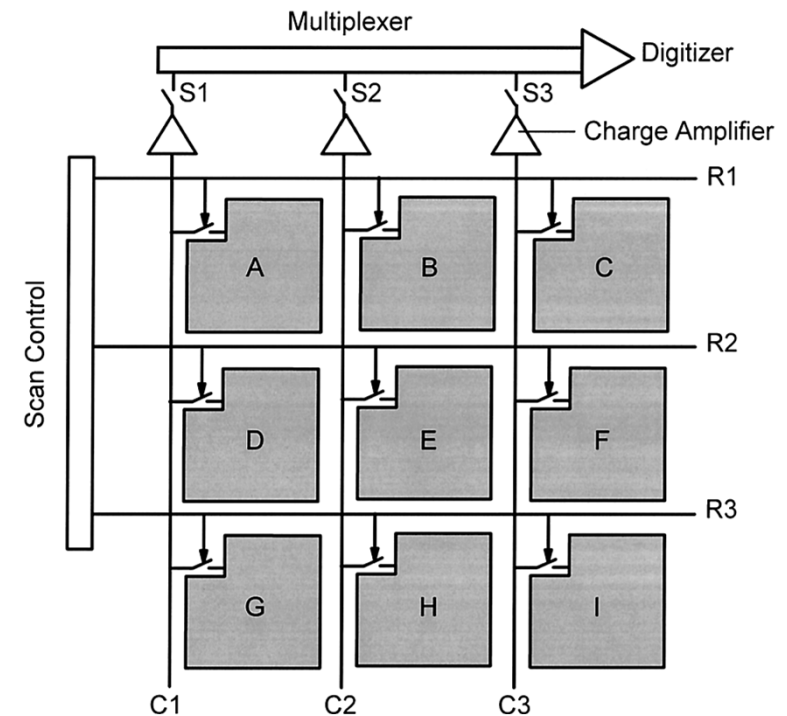

Figure 14
- ❖ During readout, positive voltage is sequentially applied to **each gate line** (e.g., R1, R2, R3, as shown in Fig. 14), one gate line at a time.
- ❖ The multiplexer (top of Fig.14) is a device with a series of switches in which one switch is opened at a time.